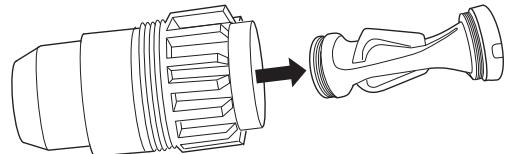

Figure 7
- Remove diaphragm from cup assembly (see Figure 7) and inspect for foreign objects or wear. Rinse thoroughly with clean water before reinstalling. Replace diaphragm if necessary.